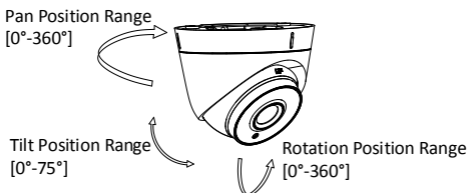

Figure 2-5 3-axis Adjustment
7. Adjust the camera according to Figure 2-5 to get an optimum angle.